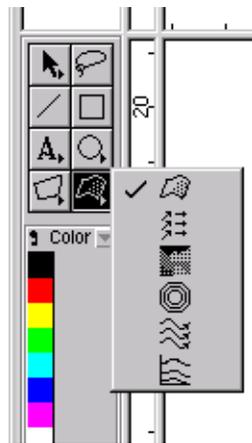

Figure 32. Post-Processing Tool, drawing contours
2. Hold the mouse button down over the post-processing tool at the lower right of the tools found at the upper left edge of the *Argus ONE* window, and select the contour drawing tool from the pull-down list (Figure 32); this is the tool with concentric circles.